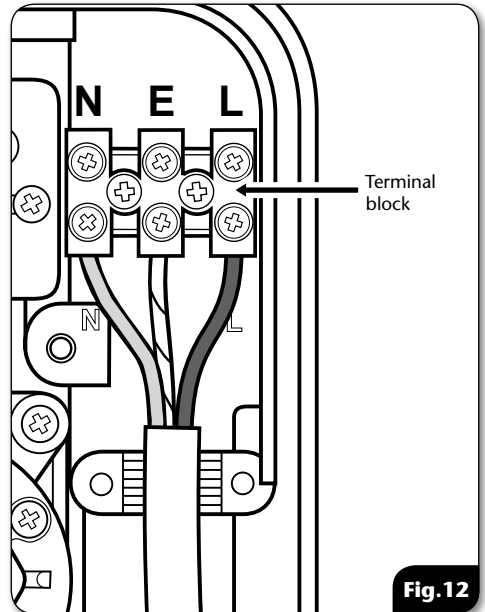

Fig.12
- Route the cable into the shower unit for connection to the terminal block (**fig.12**) as follows: